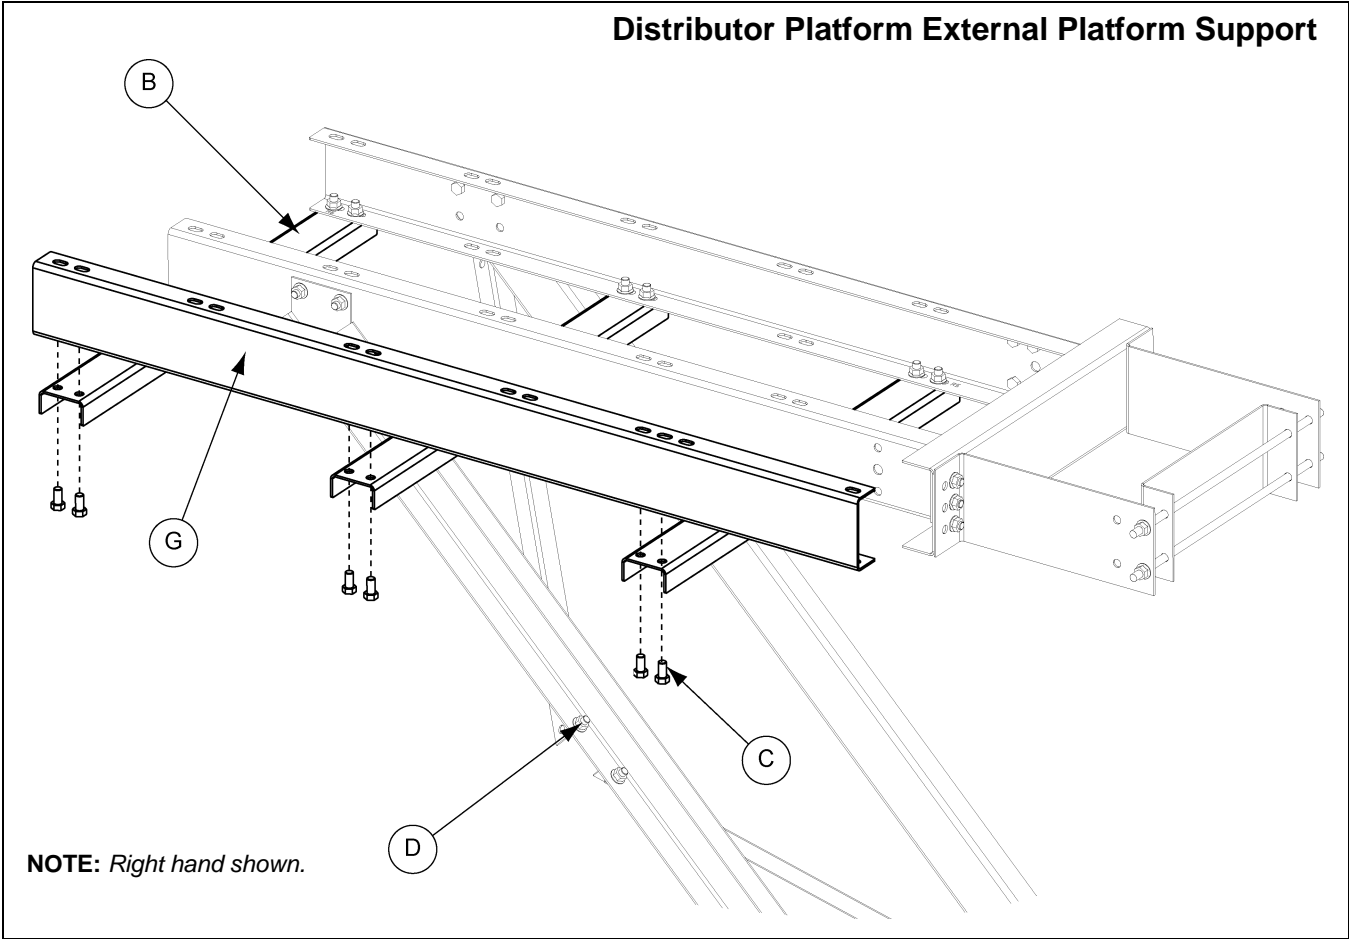

Figure 12C *Distributor External Platform Support*
3. Assemble the external platform support (DSP1648EPS) to the end of the three (3) cross supports using six (6) 1/2" x 1" bolts (S-7935) (C) and nuts (S-8506) (D). *(See Figure 12C on Page 96.)*